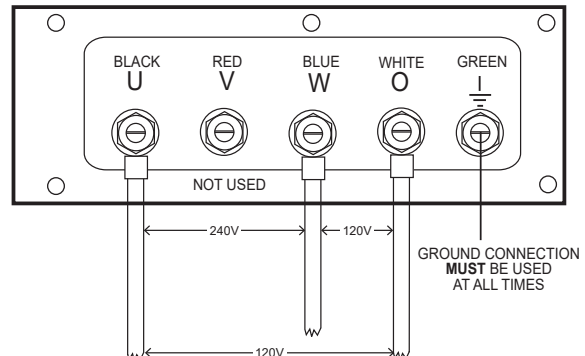

Figure 27. UVWO Terminal Lugs (Single-Phase 240/120-Volt Connection)
2. Connect the load wires to the **UVWO terminal lugs** as shown in Figure 27.